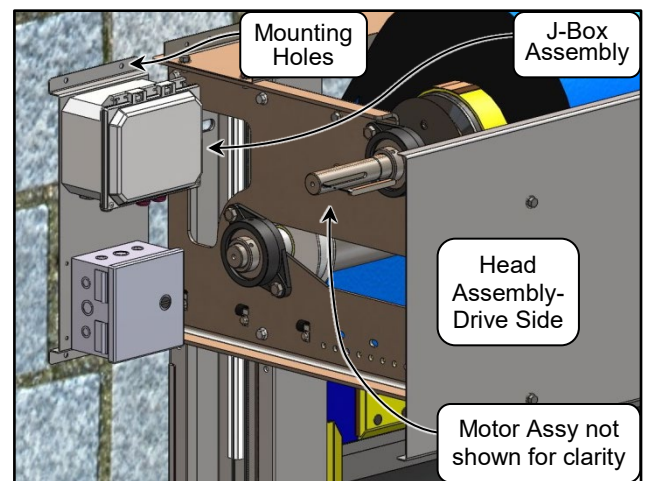

Figure 23
2. Orient the Junction Box assembly as shown. Mount the J-Box assembly with appropriate fasteners/anchors for the wall construction. Allow ample room for access to the J-Box, Bearings, Motor & the head assembly. (See Figure 23)